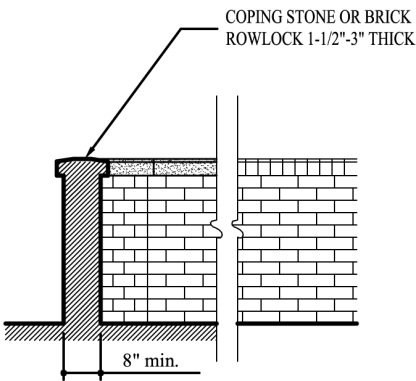

Figure 32
- » Brick walls shall be capped with coping stone or shaped brick. The cap shall overhang the wall between 1/2” and 1-1/2” to provide an appropriate drip edge. See Figure 32.
- » Dooryard, garden, or retaining walls of brick or stone shall be no less than 8” wide and capped in a rowlock course of brick, cut brick, or dressed coping stone 1-1/2” to 3” thick. See Figure 32. Dooryard or garden walls are encouraged where sidewalk grade is 4’ or more lower than the stoop or porch walking surface.